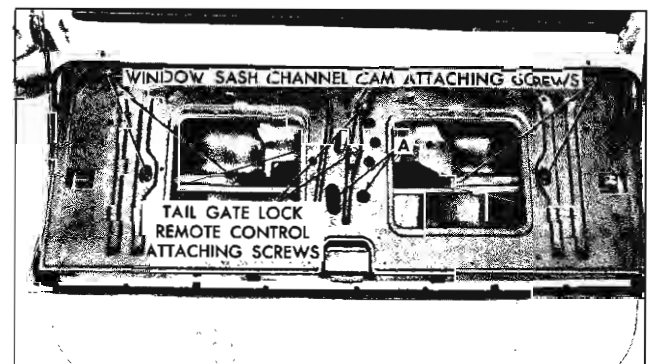

Fig. 5-10 Tail Gate Hardware
2. Detach tail gate inner panel water deflector sufficiently to gain access to window lower sash channel cam attaching screws (Fig. 5-10). Remove tail gate inner panel access hole covers.
3. Carefully operate window upward until the window lower sash right and left cam attaching bolts are accessible through access holes (Fig. 5-10).
4. Remove window lower sash channel right and left cam attaching bolts (Fig. 5-10) and disengage cams from window lower sash channel. Remove window from tail gate.
NOTE: If regular motor is inoperative with window more than half way down, remove inner panel left access hole cover; then remove both right and left window lower sash channel cam attaching screws (Fig. 5-10) and lift window sufficiently to gain access to motor attaching screws. Prop window in up position.